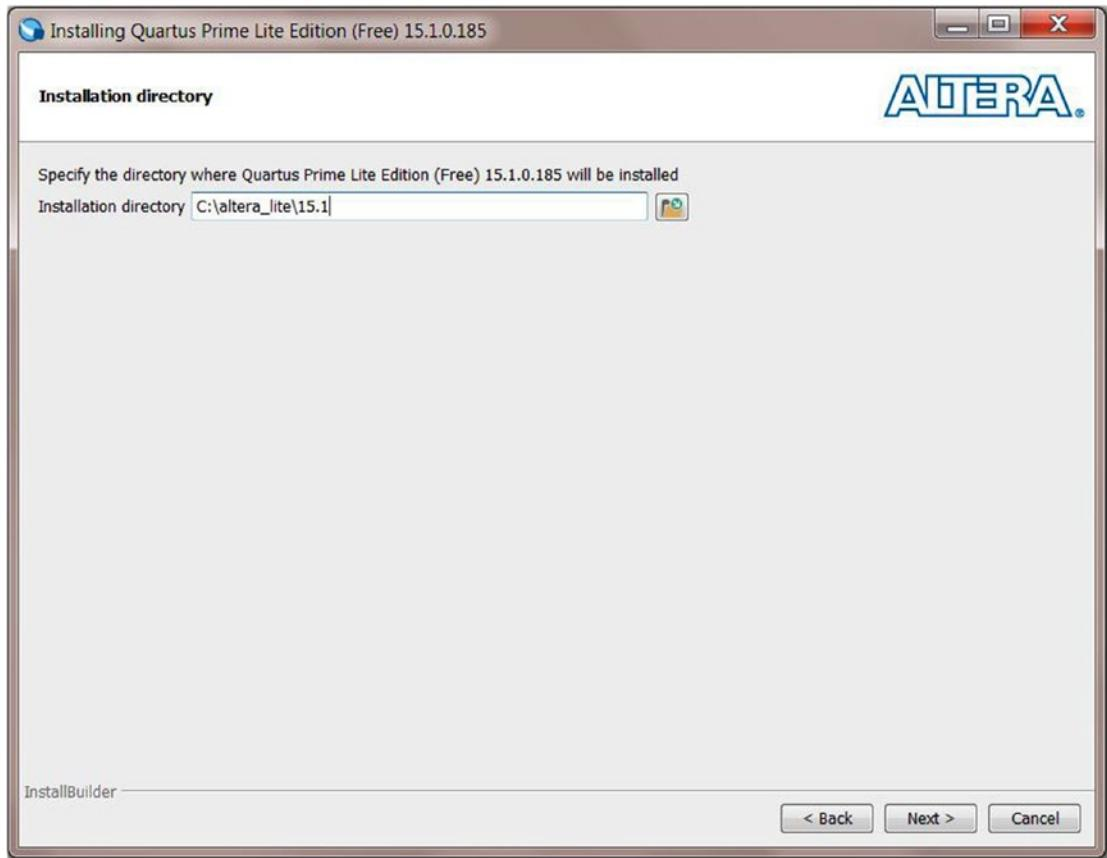

Figure 3-12. Installation directory
3. Select the installation location for the giant (>10GB) Quartus Prime Lite edition and click **Next** (Figure 3-12).